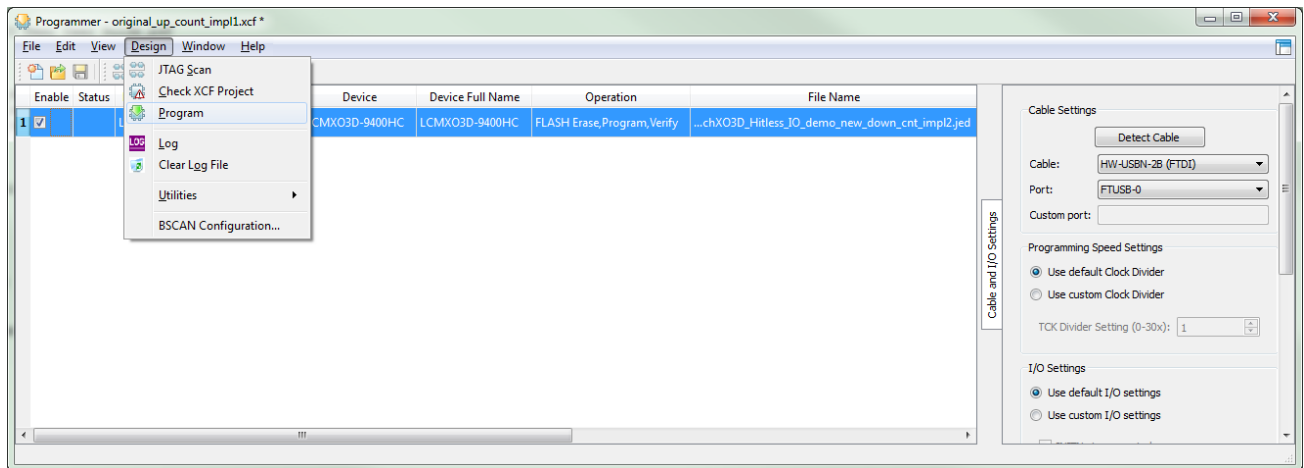

Figure 6.10. Programming the Device
- Now you can program the bitstream file to the device. Select **Design > Program** (Figure 6.10), or click the **Program** button () from the toolbar.